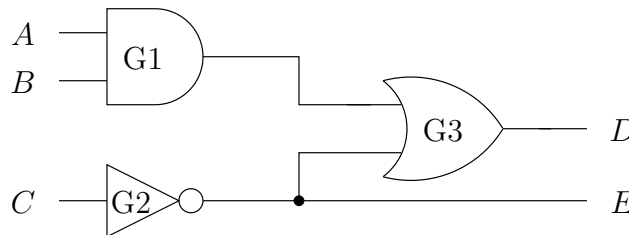

Figure 2: Simple Circuit
4. A simple program modeling a circuit (see Figure 2) at the gate-level, is provided below.